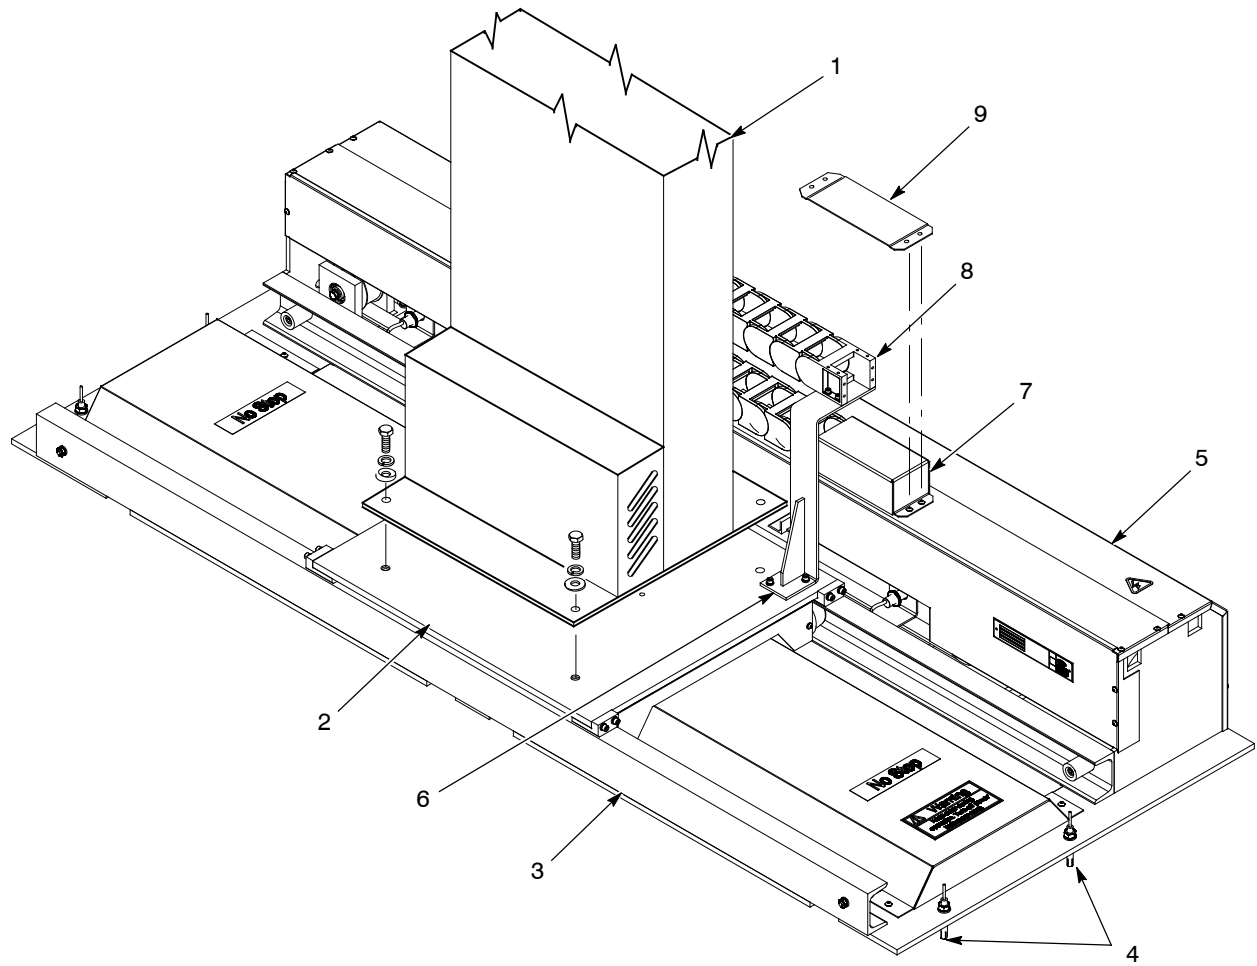
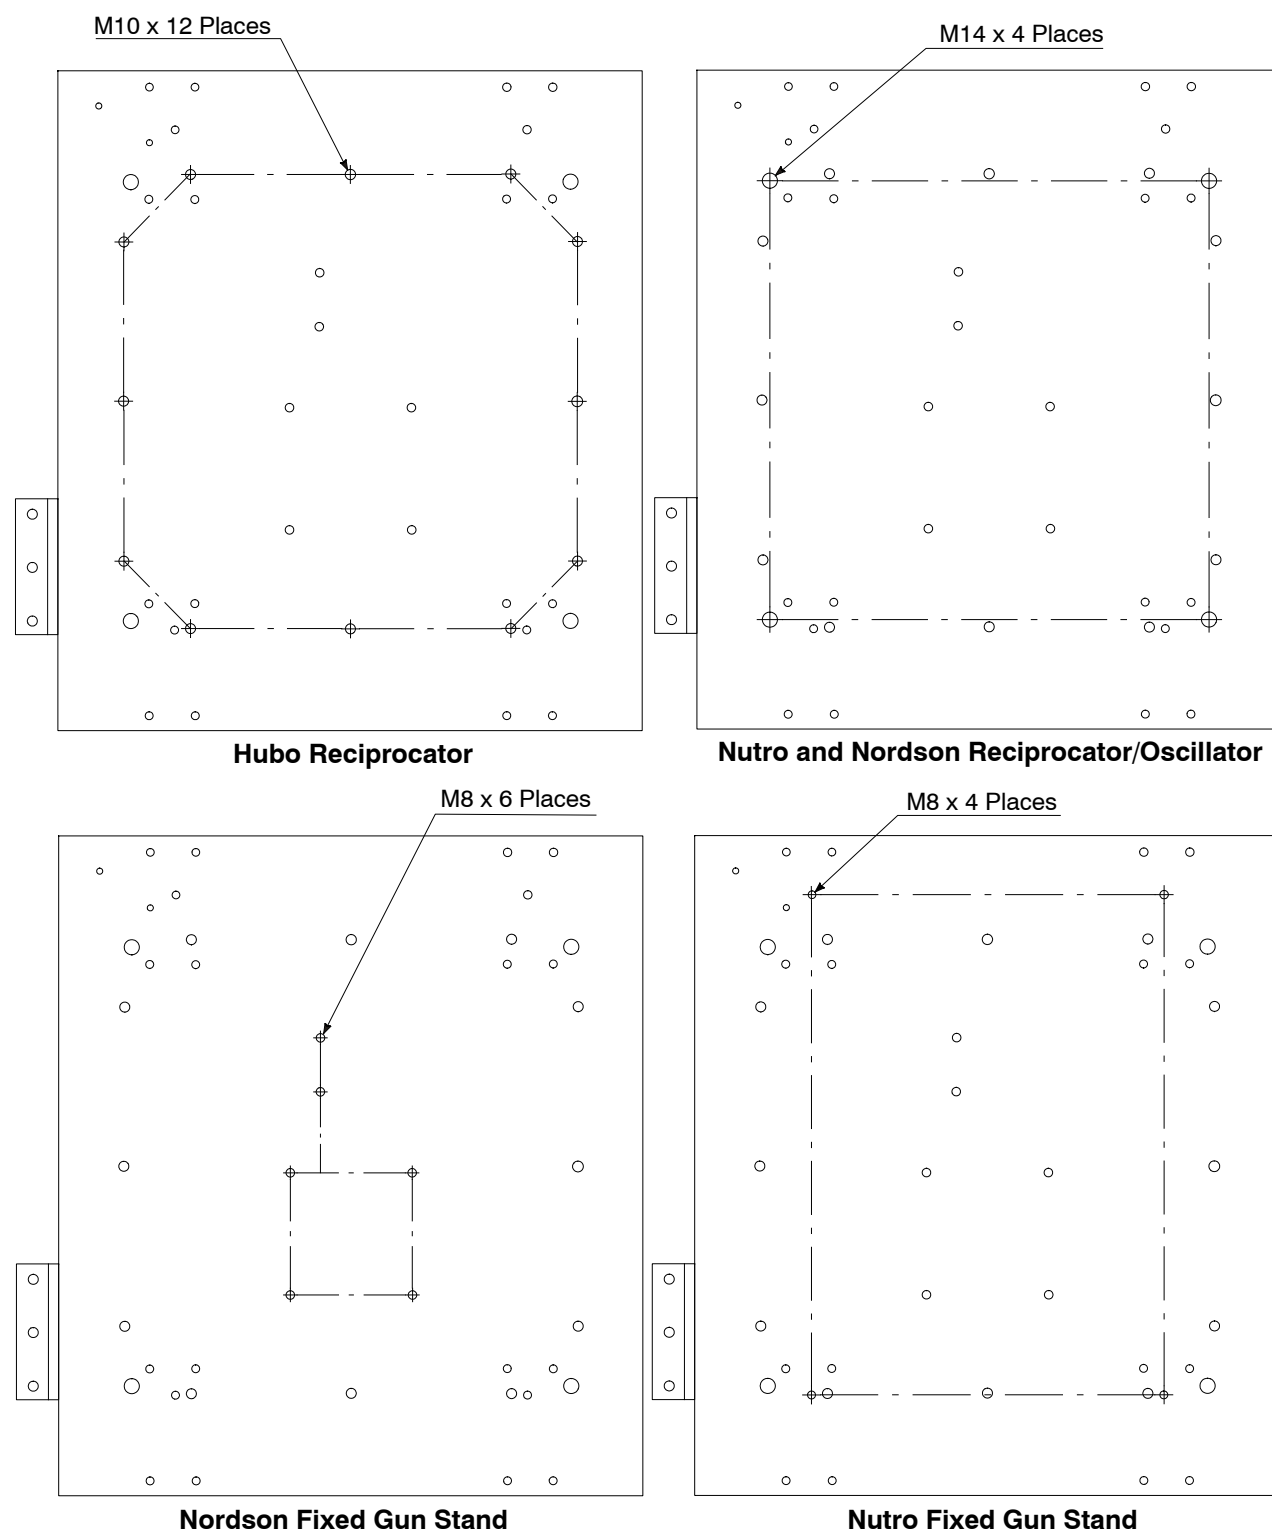

Figure 4 Installation
Figure 5 Carriage Hole Patterns
2. See Figures 4 and 5. Using appropriate lifting equipment, carefully install the oscillator, reciprocator, or fixed gun stand (1) onto the carriage (2) and bolt it in place to the carriage with appropriately sized hex head screws, lock washers, and flat washers. Figure 5 includes the carriage hole patterns for various fixed gun stands, oscillators, and reciprocators.
4. Bolt the positioner base (3) to the floor with M10 x 75 anchor bolts (4).
5. To provide a protected path for oscillator or reciprocator cables, install the cable carrier (8) and cover (7) on the positioner as follows:
- a. Remove the blanking plate (9) from the top of the drive housing.
- c. Mount the cable carrier bracket (6) to the positioner carriage as shown, then bolt the unsecured end of the carrier to the bracket.